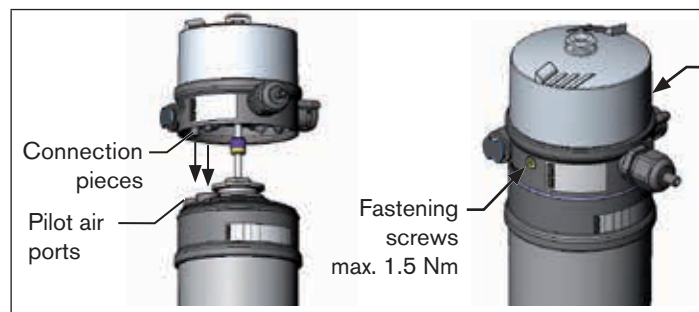

Fig. 9: Installation of the Pneumatic Control Unit, 21xx series
- Align the Pneumatic Control Unit until the connection pieces of the Pneumatic Control Unit can be inserted into the pilot air ports of the actuator (see also "Fig. 9").